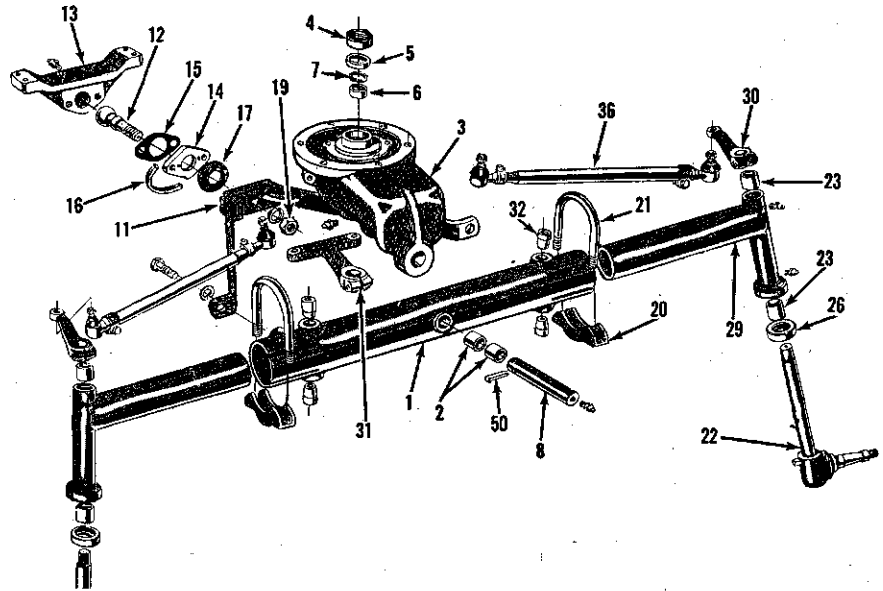
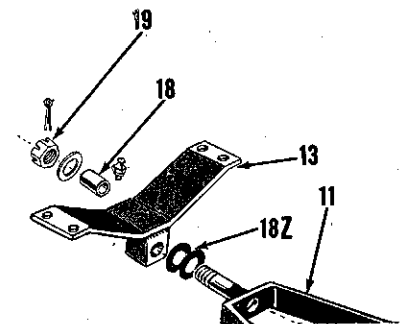

Fig. MH754—Exploded view of the adjustable front axle used on 333 and 444 tractors.
Fig. MH757 — Pivot bracket, axle brace and attaching parts used on 444 Rice tractors. Remainder of assembly is similar to Fig. MH755.
Fig. MH755—Exploded view of the standard non-adjustable front axle used on series 333 and 444 tractors. 444 Rice models are similar except for the differences shown in Fig. MH757. Only manual steering tractors use parts (4, 5, 6 and 7). Refer to Fig. MH754 for legend not listed below.
6. The procedure for removing the spindles on hi-arch (adjustable) axle type 333 and 444 tractors is evident after an examination of the unit and reference to Fig. MH754.
7. To renew the axle pivot bushings (2—Figs. MH754, 755, 756 or 757A), first jack up the front of the tractor to take the weight off the front axle. Drive out the axle pivot retaining groove pin; then, drive the axle pivot pin out. Bushings can be renewed using a suitable puller.
8. To adjust the axle brace pivot ball clearance in its socket, first jack up the front of the tractor to take the weight off the front axle. Loosen or remove the two cap screws retaining the retainer plate (14—Figs. MH754, 755, 756 or 757A) to pivot bracket (13). The addition or removal of shims (15) between the pivot bracket and the re-
8A. To renew the bushing (18—Fig. MH757) and/or thrust washers (18Z), first jack up the front of the tractor to remove weight from the front axle. Remove the retaining nut (19) then unbolt and remove the brace (13).